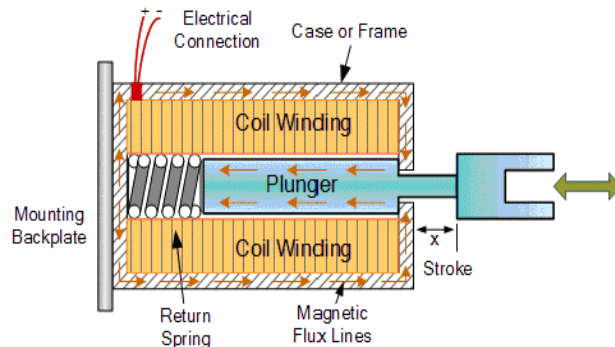

Fig.5 Pull-type Linear Solenoid Construction.
1. Linear electromechanical Solenoid (actuator): Linear solenoids can also be designed for proportional motion control where the plunger position is proportional to the power input. When electrical current flows through a conductor it generates a magnetic field, and the direction of this magnetic field with regards to its North and South Poles is determined by the direction of the current flow within the wire. This coil of wire becomes an “Electromagnet” with its own north and south poles exactly the same as that for a permanent type magnet. The strength of this magnetic field can be increased or decreased by either controlling the amount of current flowing through the coil or by changing the number of turns or loops that the coil has. An example of an “Electromagnet” is shown in Figs.5&6. When an electrical current is passed through the coils windings, it behaves like an electromagnet and the plunger, which is located inside the coil, is attracted towards the centre of the coil by the magnetic flux setup within the coils body, which in turn compresses a small spring attached to one end of the plunger (Figs.7-10). The force and speed of the plungers movement is determined by the strength of the magnetic flux generated within the coil. When the supply current is turned “OFF” (de-energised) the electromagnetic field generated previously by the coil collapses and the energy stored in the compressed spring forces the plunger back out to its original rest position. This back and forth movement of the plunger is known as the solenoids “Stroke”, in other words the maximum distance the plunger can travel in either an “IN” or an “OUT” direction, for example, 0 – 30mm. Linear solenoids are useful in many applications that require an open or closed (in or out) type motion such as electronically activated door locks, pneumatic or hydraulic control valves, robotics, automotive engine management, irrigation valves to water the garden and even the “Ding-Dong” door bell has one. They are available as open frame, closed frame or sealed tubular types.